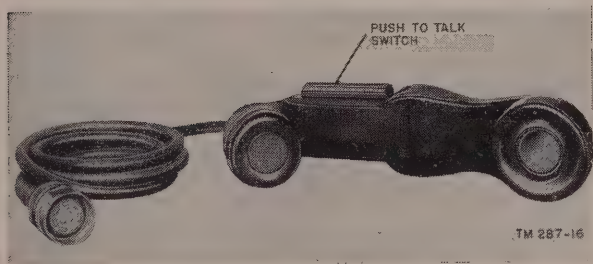

Figure 14. Handset H-33/PT.
d. Handset H-33/PT (fig. 14) may be used at the panel AUDIO connector of either control unit. The handset is equipped with a push-to-talk nonlocking switch which incorporates two SPST (single-pole, single throw) switches. The handset cord is terminated in a 10-pin connector which will mate with any of the 10-pin AUDIO receptacles on the control units, receiver-transmitters, and receivers.
e. HANDSET H-33/PT. Handset H-33/PT (fig. 14) is a combination microphone and receiver with a push-to-talk switch and connecting cord. Microphone impedance is 40 ohms; receiver impedance is 300 ohms. The push-to-talk switch provided consists of two electrically independent SPST (single-pole, single-throw) switches. The cord is 5 feet long and is terminated in a 10-pin audio connector which will mate with the audio receptacles on the receiver-transmitter or with the audio receptacles on either of the control units.